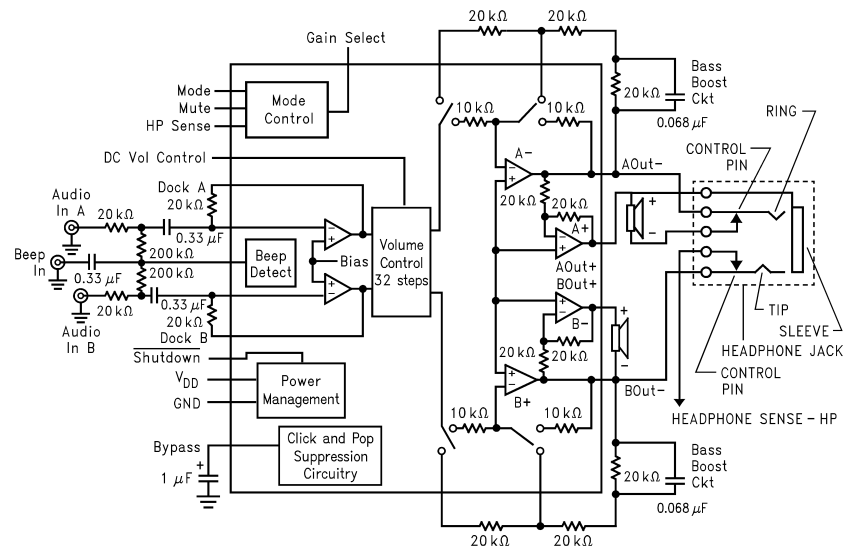

Figure 1. LM4841 Block Diagram
- (1) All voltages are measured with respect to the ground pins, unless otherwise specified. All specifications are tested using the typical application as shown in Figure 1.
- (2) *Absolute Maximum Ratings* indicate limits beyond which damage to the device may occur. *Operating Ratings* indicate conditions for which the device is functional, but do not guarantee specific performance limits. *Electrical Characteristics* state DC and AC electrical specifications under particular test conditions which guarantee specific performance limits. This assumes that the device is within the Operating Ratings. Specifications are not guaranteed for parameters where no limit is given, however, the typical value is a good indication of device performance.
- (3) Typicals are measured at $25^\circ C$ and represent the parametric norm.
- (4) Limits are guaranteed to National's AOQL (Average Outgoing Quality Level). Datasheet min/max specification limits are guaranteed by design, test, or statistical analysis.
- (5) When driving 3Ω loads from a 5V supply, LM4841MH and LM4841LQ must be mounted to the circuit board and forced-air cooled.
- (6) When driving 4Ω loads from a 5V supply, the LM4841MH and LM4841LQ must be mounted to the circuit board.